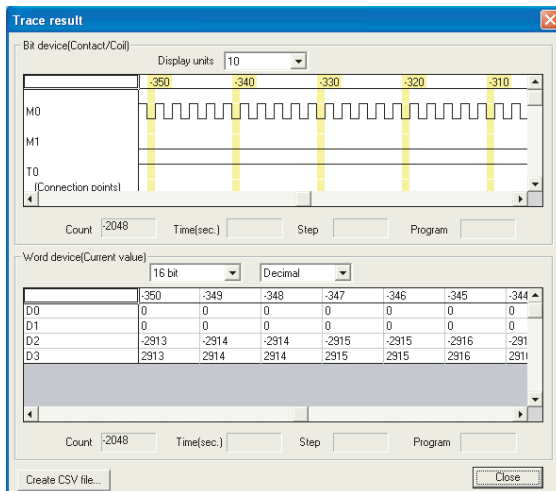

Figure 6.72 Trace result screen
- Click the **Create CSV file** button on the screen shown in Figure 6.72 to save the trace result in CSV format.